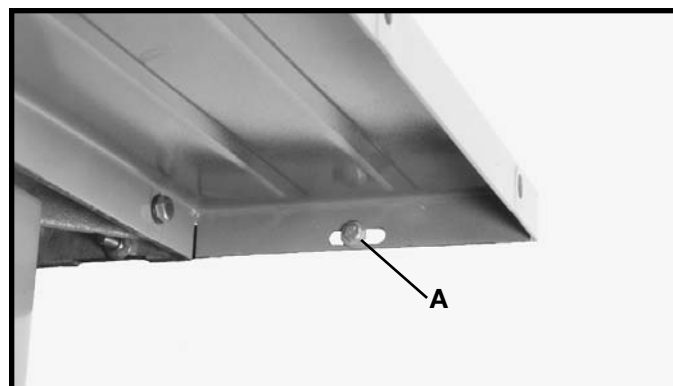

Fig. 19
2. Insert a 3/8-16x1¼" hex head screw (A) Fig. 19 through the sheet metal wing and place a 3/8" washer onto the screw, and thread a 3/8-16 hex nut onto the bolt, do not tighten the nut at this time. **NOTE: LEAVE THE HEX HEAD BOLT EXTENDED OUT THE FRONT OF THE SHEET METAL WING, THE GUIDE RAIL WILL BE ATTACHED TO THE END OF THE HEX HEAD SCREW.**